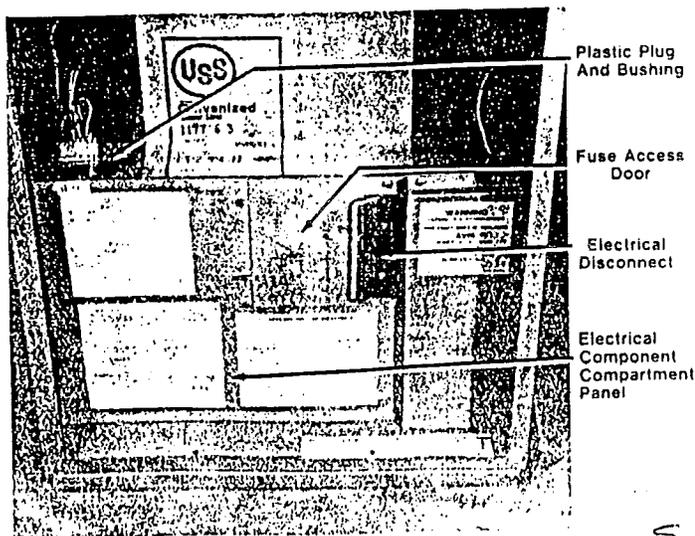

FIGURE 4
- Remove the plastic plug from the 7/8 inch hole next to the blower plug in the furnace electrical component compartment top. See figure 4.
- Remove the plastic bushing from the 7/8 inch hole next to the blower plug in the furnace electrical component compartment top. See Figure 4. Slip the plastic bushing around the orange and blue wires coming from the smaller flexible conduit and slide it over to the right of the furnace.